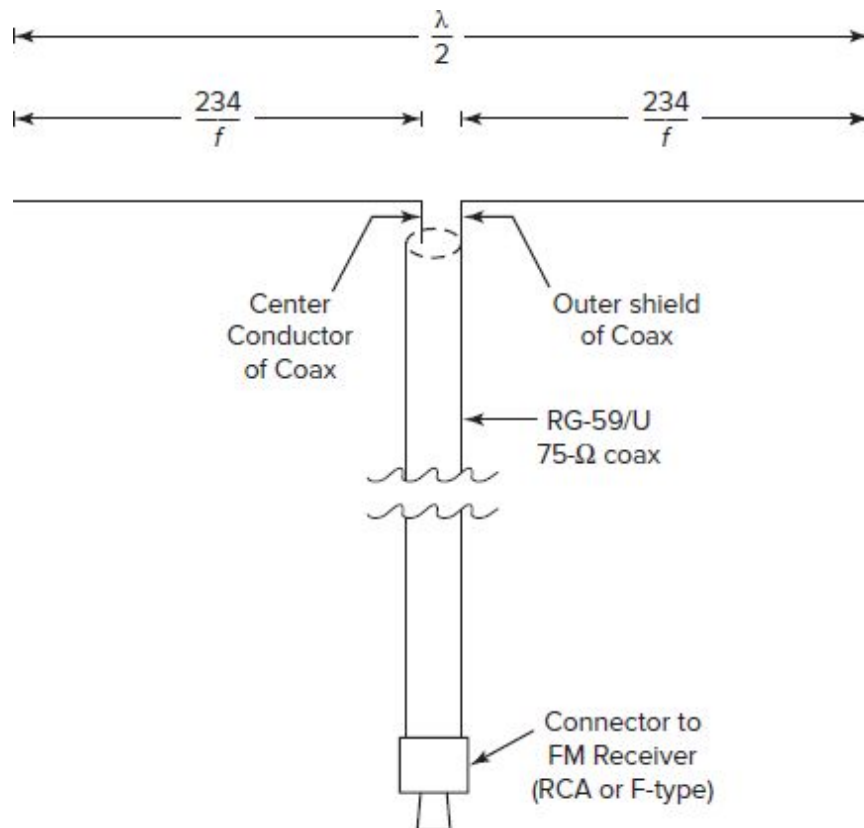

Fig. 16-2 Half-wave dipole with coax cable feed line.
5. Alternatively, you may also make the antenna of copper wire and coax cable feed line. Cut the #14 copper wire to the length specified by the formula in the text for a half-wave dipole, that is, $L = 468/f$, where f is in megahertz. Cut this wire into two equal pieces. Then attach the wire to the coax as shown in Fig. 16-2. Solder the connections to the coax cable. Be sure the coax cable has a connector that matches the one on the FM receiver. RCA and F-type coax connectors are the most common.